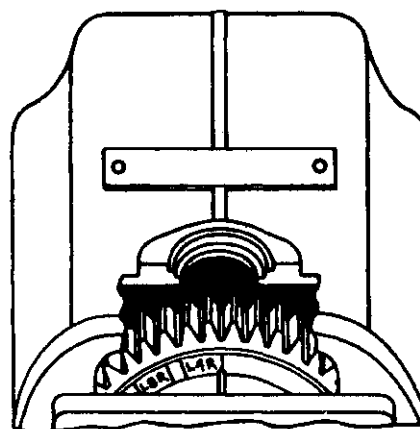

Figure 3. Alignment of Timing Marks on Distributor
- a. Four and eight cylinder, all types — The timing rib on the distributor block **MUST** align within 1/2 tooth either side of the "L" or "R" mark on the gear, depending on magneto rotation. (See figure 3.)